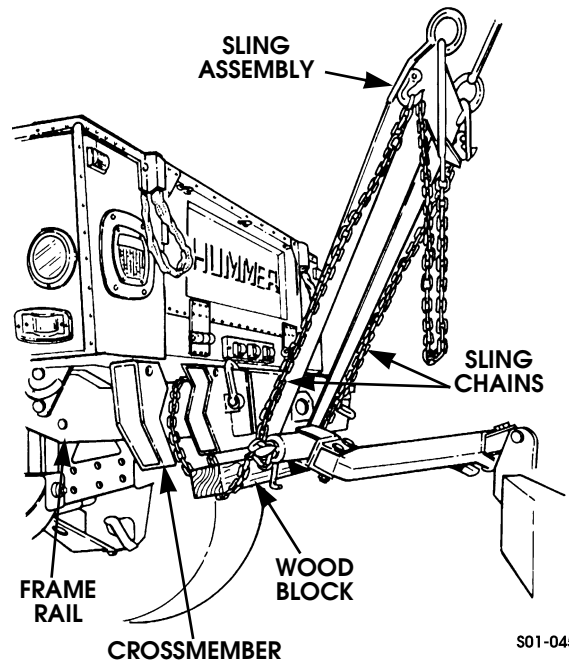

Figure 1-15: Rear Towing with Conventional Equipment
1. Loop sling chain around frame rails adjacent to rear crossmember and secure to tow sling (Figure 1-15).
2. Insert 4" x 4" x 48" length of wood between bumper and sling chains (Figure 1-15).